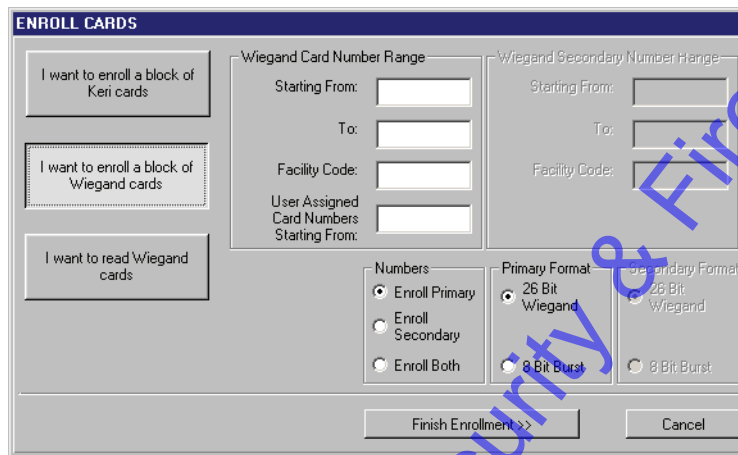

Figure 14-5: Enroll Cards - Block Enrollment
- Click on the  button. If the *Doors* program is not connected to the access control network, the program will automatically connect. The Enroll Cards window appears. Click on the  button. The Enroll Cards window is ready for block enrollment of Wiegand cards (see Figure 14-5).